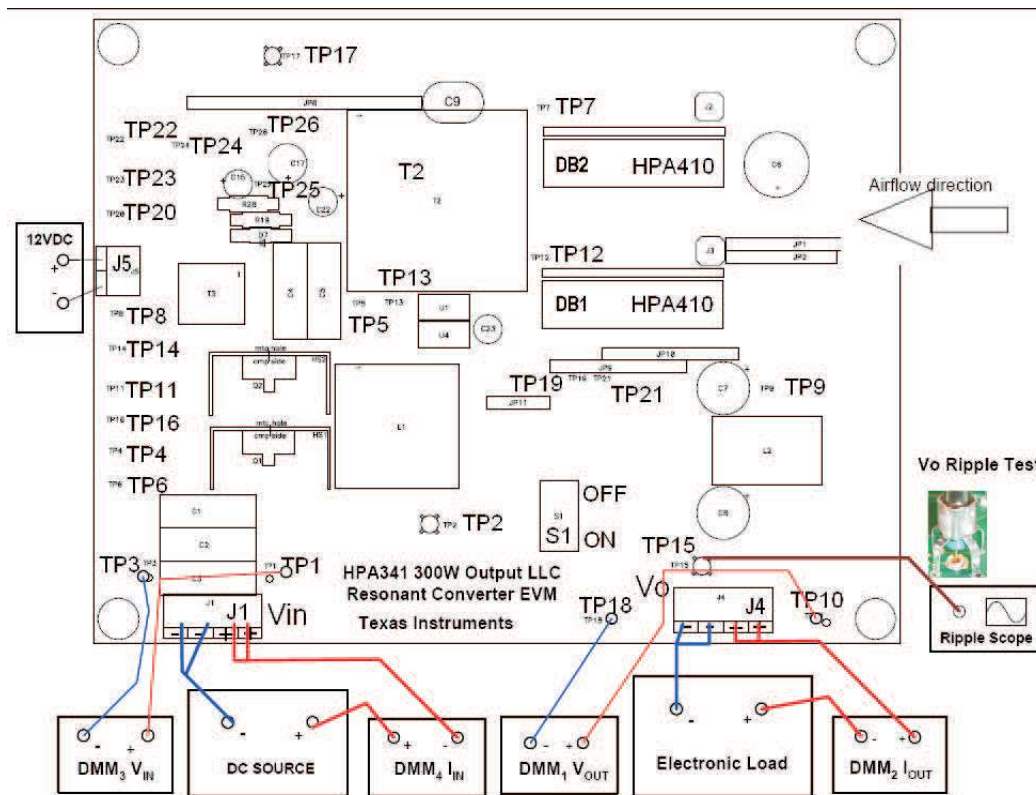

Figure 3. Recommended Test Set Up
Output Load: A programmable electronic load is recommended, configurable for constant current mode and capable of sinking 0 A_{DC} to 25 A_{DC} from 12 V_{DC}. The output voltage can be monitored by connecting a DC voltmeter, DMM1 to sense pins (TP10 and TP18) shown in Figure 3. A DC current meter, DMM2, may be inserted in series with the electronic load for accurate output current measurements. Similarly, the input voltage can be monitored by connecting a DC voltage meter to sense pins (TP1 and TP3). The input current can be monitored by a DC current meter too. These are shown in Figure 3.
2. Prior to connecting the DC input source, limit the source current 1.0 A maximum. Make sure the DC source is initially set at 390 V_{DC} prior to turning on. Connect the DC source to the EVM as shown in Figure 3.
3. Connect the current meters DMM2 and DMM4 as shown in Figure 3.
4. Connect the volt meter DMM1 and DMM3 as shown in Figure 3.
5. For operation with a load, connect the electronic load to the EVM as shown in Figure 3. Set the LOAD to constant current mode with initial value of 1.0 A. Note: if the load less than 1.0 A, the UCC25600 may be in burst operation and the EVM output voltage may start hiccup.
Setup the EVM with equipment as shown in Figure 3 and following the test set up directions described in Section 5.
Along with the measurement of line and load regulation, the output voltage ripple can be measured at the same time. The method of tip-and-barrel should be used for the output voltage ripple measurement. The EVM provides such type of test point to facilitate the measurement for the type of oscilloscopes from Tektronix as shown in Figure 3. Reference test results of the output voltage ripple can be found in Section 7.